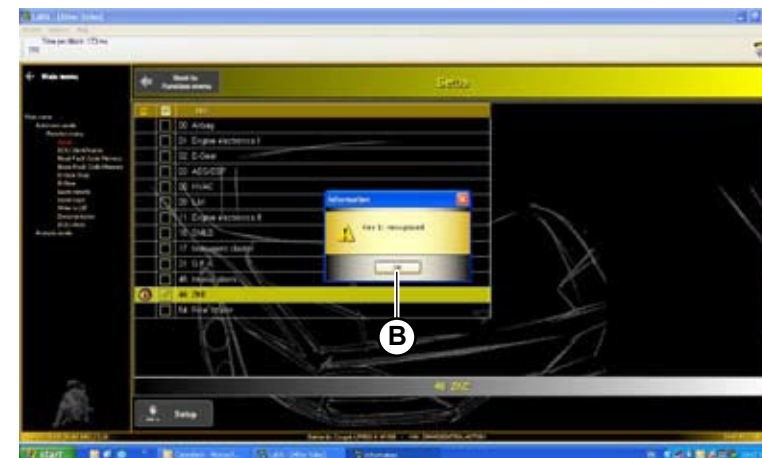

Fig.84
- Press OK (**B-Fig.84**) to confirm the code of key 1.